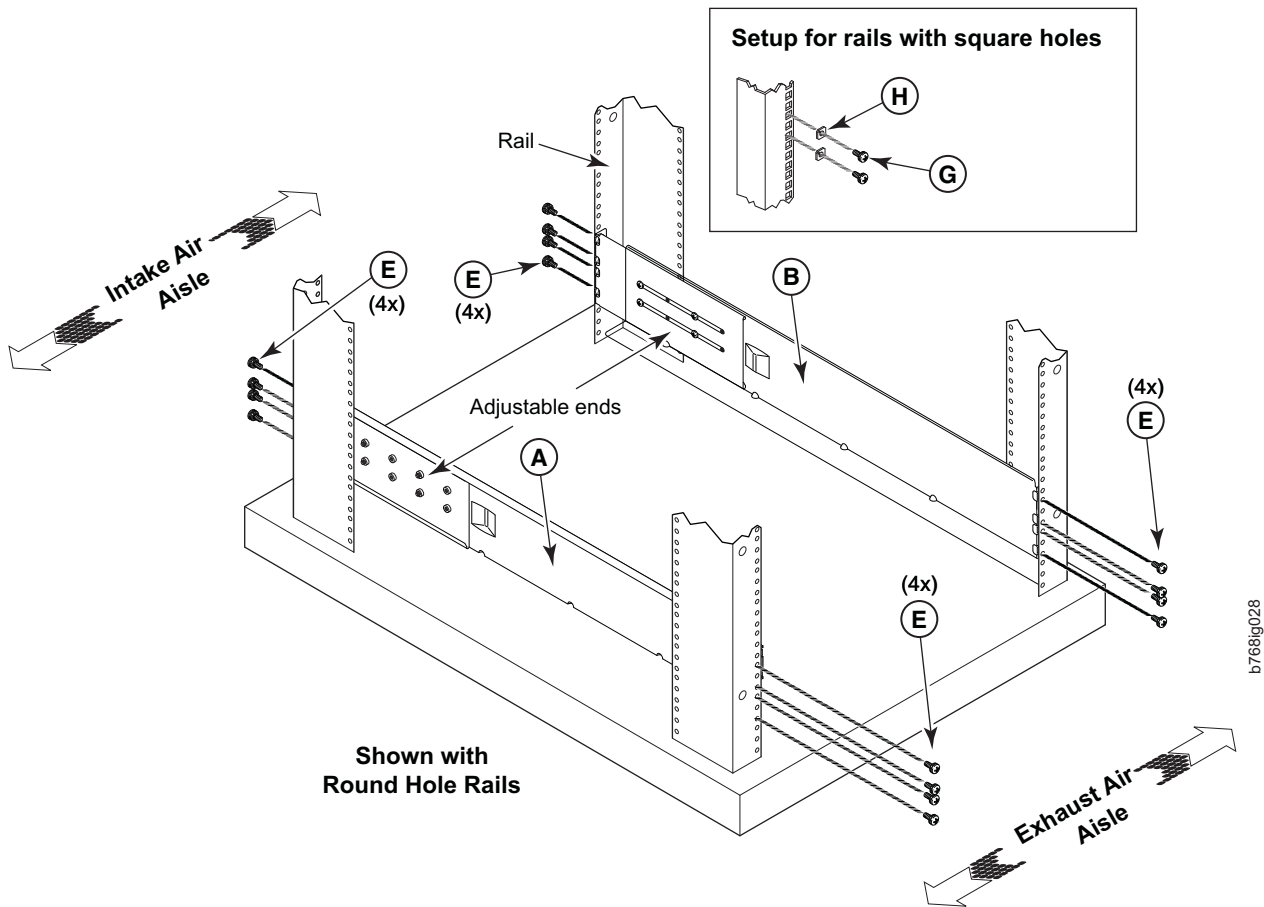

Figure 4. Left and right shelf brackets installed on the cabinet rails
1. Find the left and right rack mount shelf brackets (**A** and **B** in Figure 4 on page 20) in the 14U rack mount kit. These brackets are adjustable to allow for different cabinet depths.
3. Position the shelf brackets (**A** and **B**) with the adjustable ends at the intake aisle side of the cabinet (see Figure 4) and attach them to the cabinet rails.